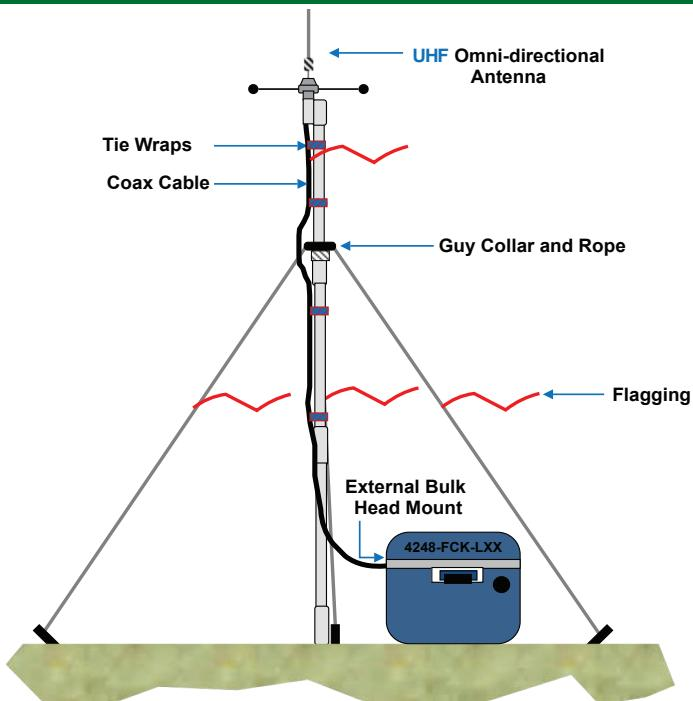

Figure 1:
1. Antenna Installation (See Figure 1)